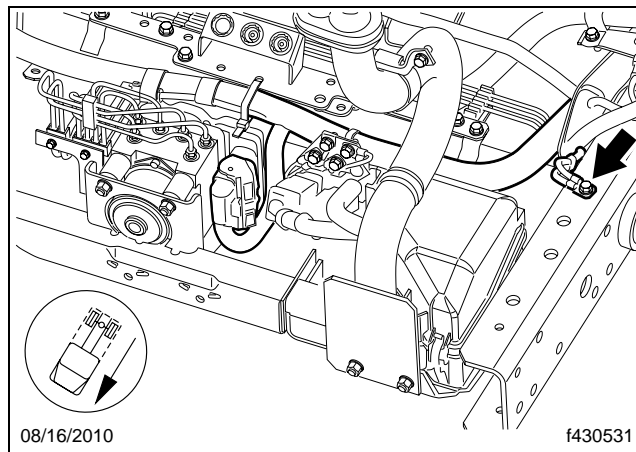

Fig. 9, Frame Rail Ground Terminal
- 5.4 Disconnect the chassis harness ground terminal from the frame and cut the harness at the junction point into the main harness. Discard the fastener. See **Fig. 9**. Tape the cut harness end out of the way on the main harness trunk.